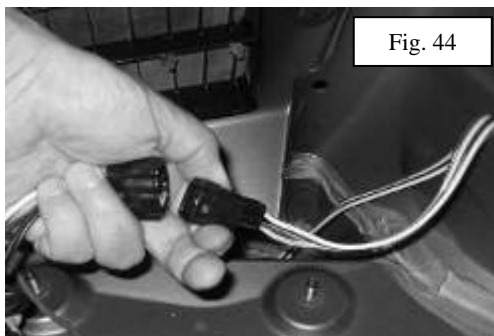

Fig. 44
- ⚠ 26. Locate the black mating plug from the power module and attach. Be sure that the connectors are fully inserted (Fig 44).